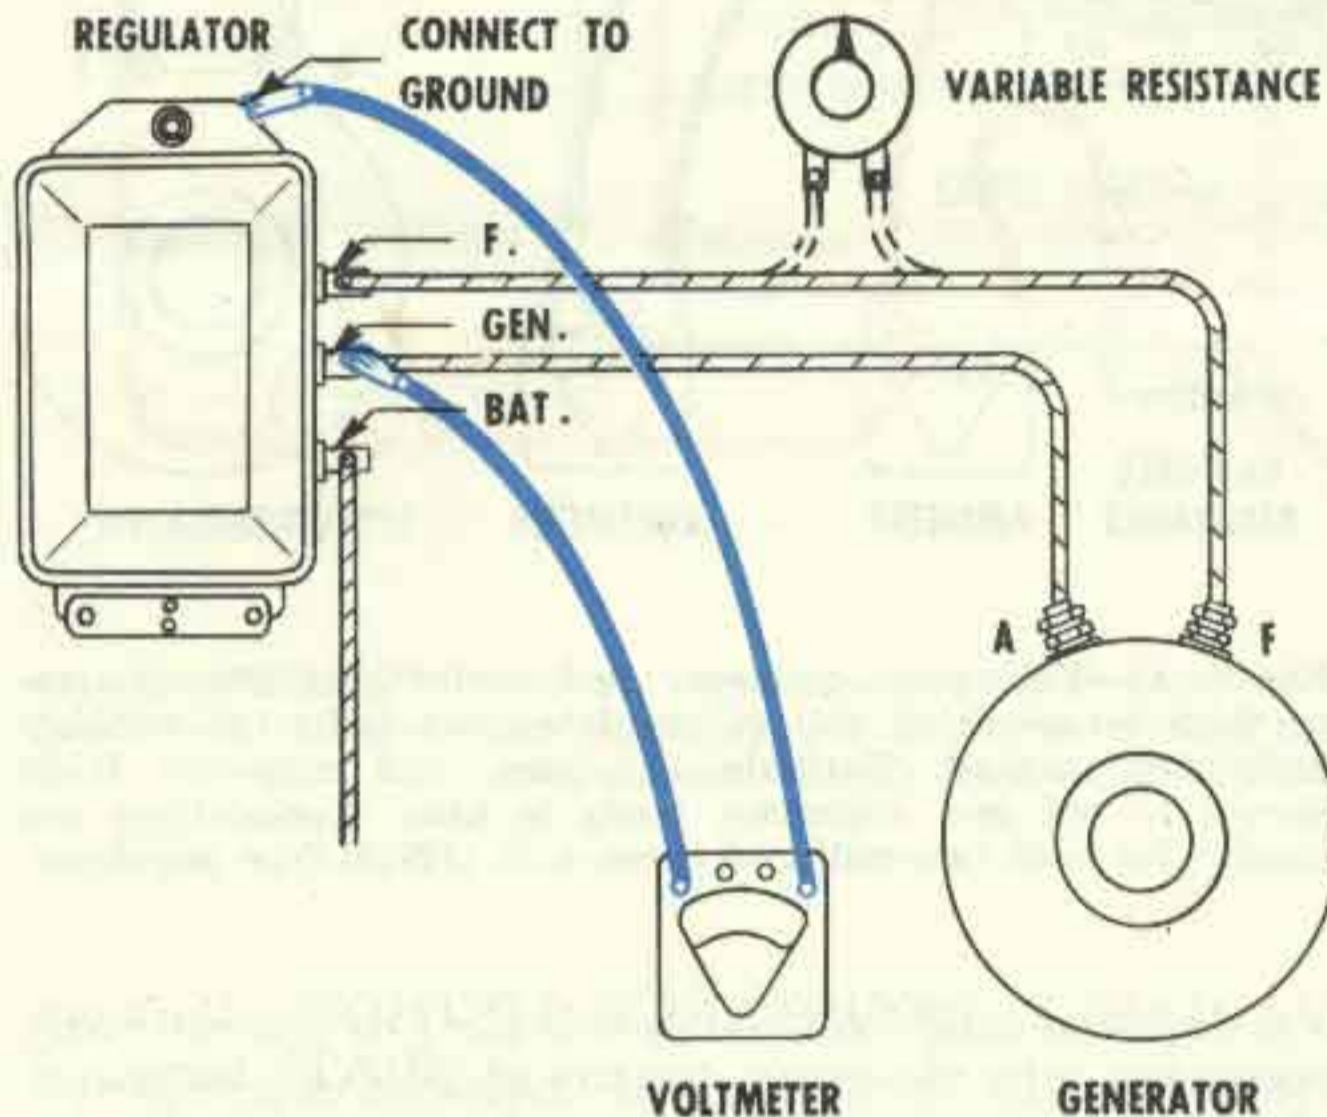
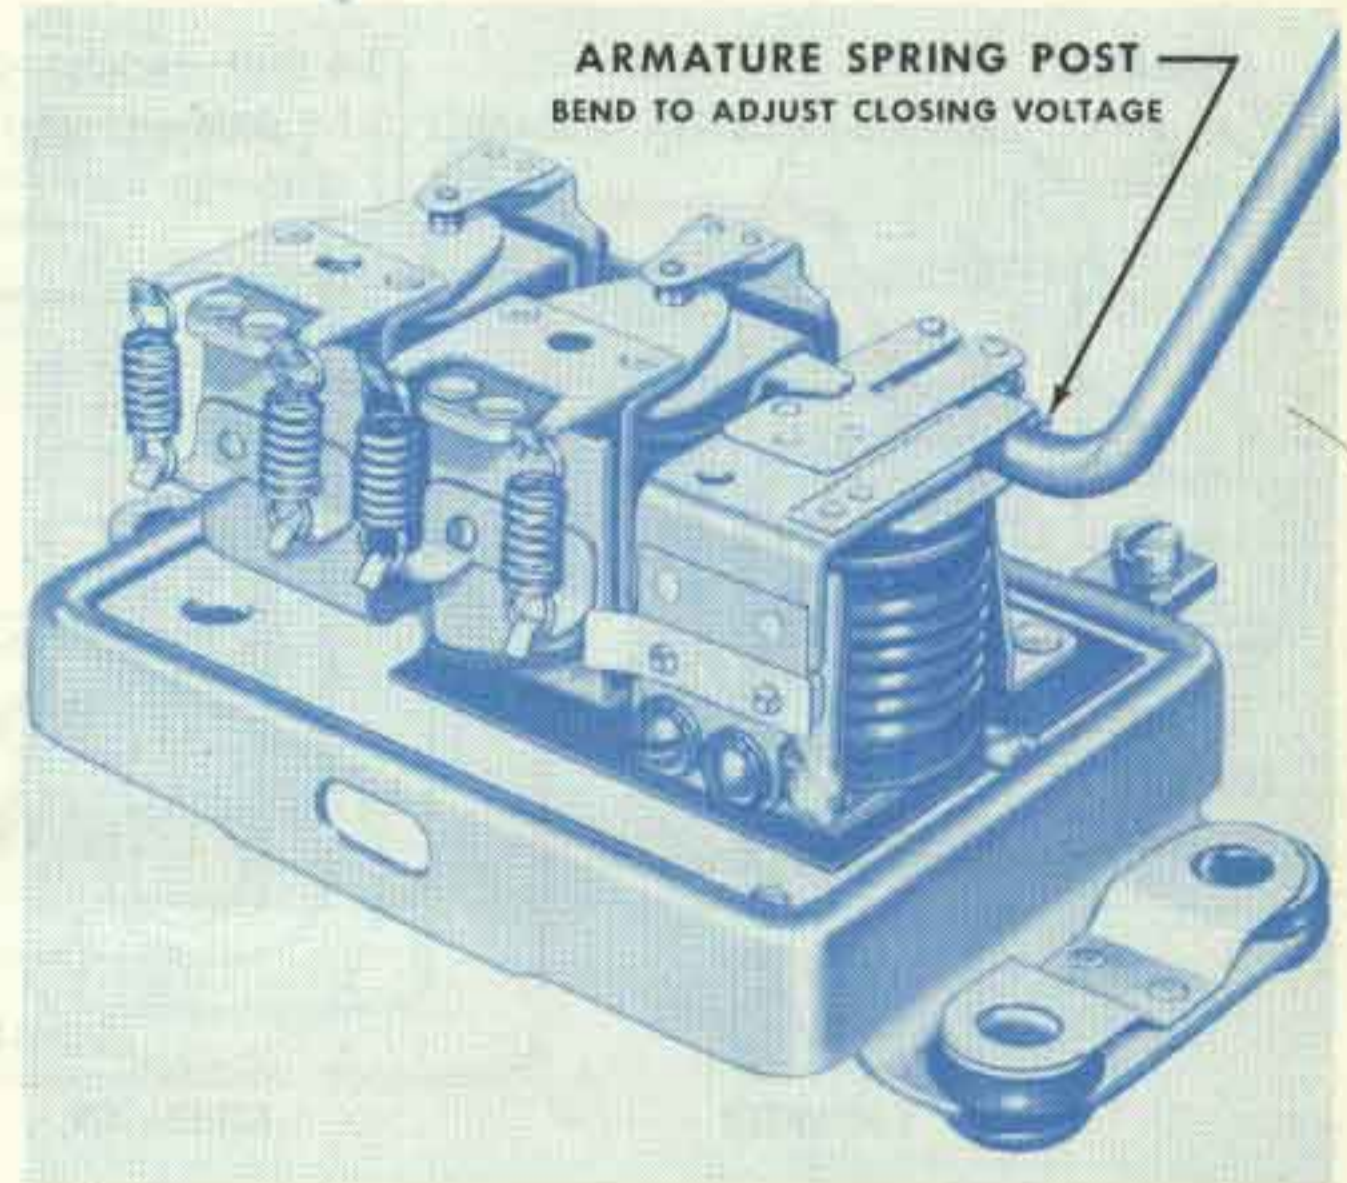

Figure 8—Voltmeter connections to check cutout relay closing voltage. Connections are similar for both two-unit and three-unit 1118200 type regulators.
Figure 9—Adjustment of cutout relay closing voltage.
**CLOSING VOLTAGE**—To check the closing voltage of the cutout relay, connect the regulator to the proper generator and battery, and connect a voltmeter between the regulator "GEN" terminal and regular base as shown in Figure 8. Slowly increase the generator speed and note relay closing voltage. Decrease generator speed and make sure cutout relay points open. An alternate method is to use a 15 ohm—25 watt variable resistance for 6 volt, or 25 ohm—25 watt variable resistance for 12 volt, connected in series in the field circuit (Fig. 8). With generator operating at medium speed slowly decrease the resistance until cutout relay contact points close. Note voltage setting. Adjust closing voltage by bending the armature spring post (Fig. 9). Bend up to increase spring tension and closing voltage, and bend down to decrease closing voltage.